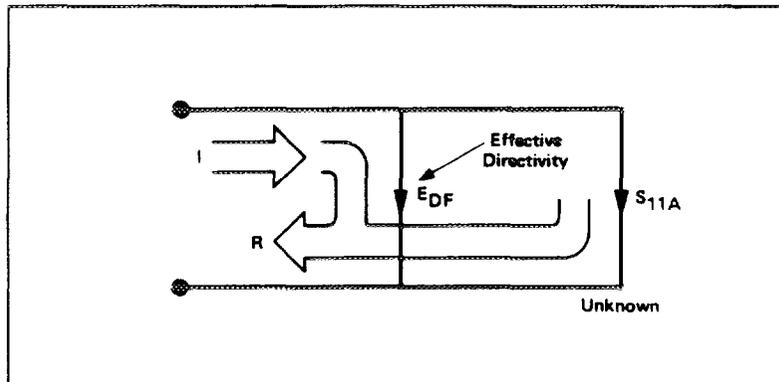

Figure 5-34. Effective Directivity EDF
However, all of the incident signal does not always reach the unknown (see Figure 5-34). Some of (I) may appear at the measurement system input due to leakage through the test set or other signal separation device. Also, some of (I) may be reflected by imperfect adapters between signal separation and the measurement plane. The vector sum of the leakage and miscellaneous reflections is directivity, EDF. Understandably, the measurement is distorted when the directivity signal combines vectorally with the actual reflected signal from the unknown, S11A.